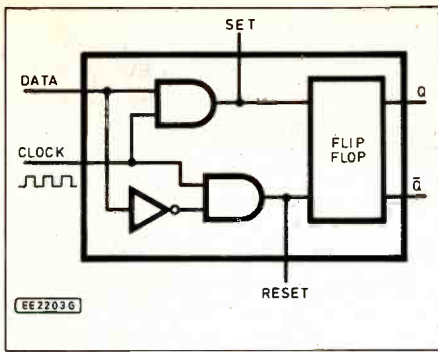

Fig. 12.7. The D type flip-flop
They do however, form part of all other available MSI flip-flop circuits; as in the D-type flip-flop, for example, as shown in Fig. 12.7. The D-type flip-flop, as indicated by its symbol in Fig. 12.8a, has a data input (D), a clock input (CLK), a set direct input (S), a reset direct input (R), and two outputs (Q and \bar{Q}). Operation of this device is very simple: the logic level at the D input is transferred to the Q output after receipt of a pulse at the CLK input. The Q output can be set directly (set to Q=1) by applying a pulse to S or reset directly (reset to Q=0) by applying a pulse to R. The \bar{Q} output is always in the opposite state to (the logic complement of) Q.